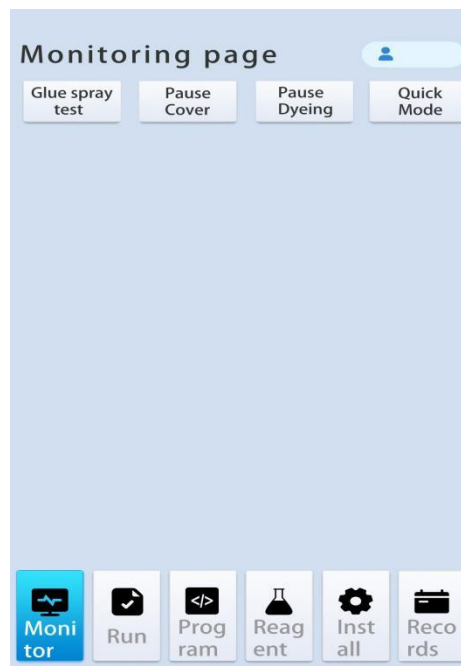

Fig 2 : Monitoring page
3.1.2 Reagent name: click the text bar to call up the monitoring interface as shown in Figure 2. Click the reagent name in the interface to add the selected reagent here.